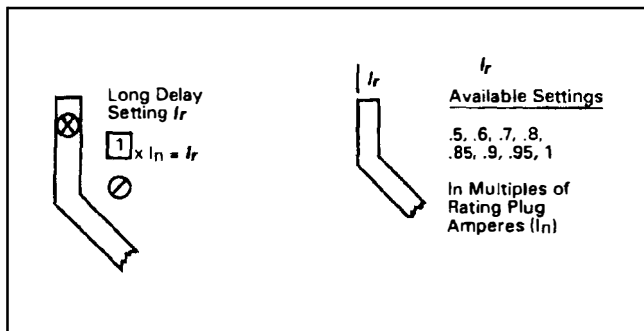

Fig. 8.1 Long Delay Current Settings
Prior to placing any circuit breaker in operation, each Trip Unit protection setting must be set to the values specified by the engineer responsible for the installation. The number of settings that must be made is determined by the protection supplied as illustrated in Figs. 8.1 through 8.7. Each setting is made with a rotary switch, using a small screwdriver. The selected setting for each adjustment appears in its respective rectangular viewing window as illustrated in Fig. 1.
The available settings, along with the illustrated effect of changing the settings are given in Figs. 8.1 through 8.7.
There are eight (8) available Long Delay "Pick-up" Current Settings, as illustrated in Fig. 8.1. Each setting, called " $I_r$ ", is expressed as a multiple (ranging from .5 to 1) of the rating plug current ( $I_n$ ).